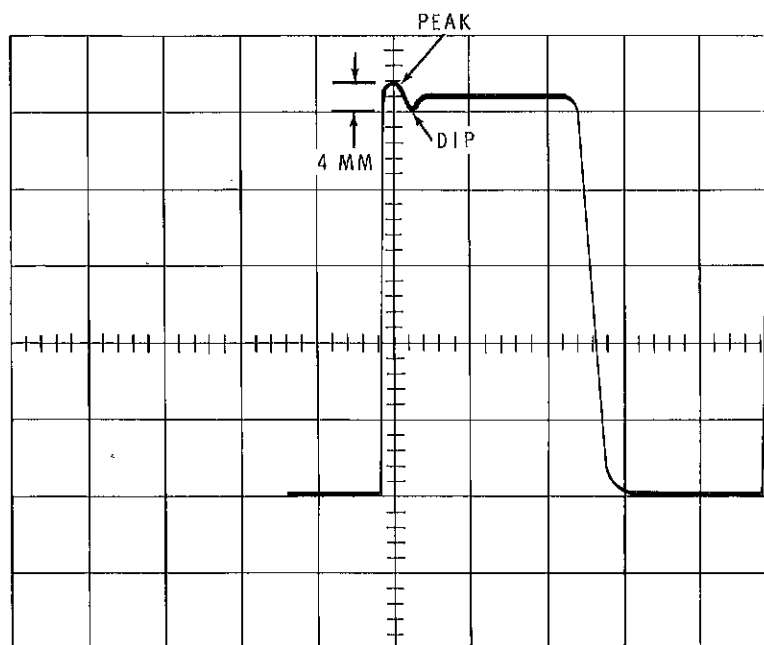

Figure 20
VOLTS/CM	As necessary to produce a display similar to that shown in Figure 20.
3. Position the trace as shown in Figure 20, with the VERT POS and HORIZ POS controls. The bottom of the dip should be on a horizontal graticule line. The "overshoot" peak height will vary with the setting of C118-2, the high frequency compensation trimmer (on the vertical circuit board). Your waveform may not look like the one shown.)